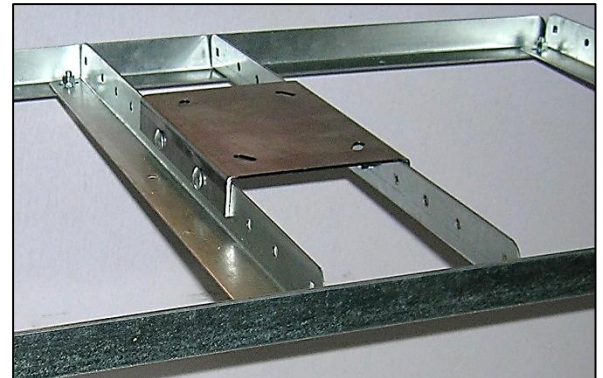

Figure 2 – antenna mount bracket attached to frame
**3.2: Attach Antenna Mount Plate to Center Frames.** Attach the antenna mount plate to the center frames using 1/4" x 3/4" carriage bolts (refer to Figure 2). Push a carriage bolt through the pre-drilled holes in the plate and center frame. Place a lock nut on the threaded end and use a 7/16" wrench or ratchet with 7/16" socket to tighten.